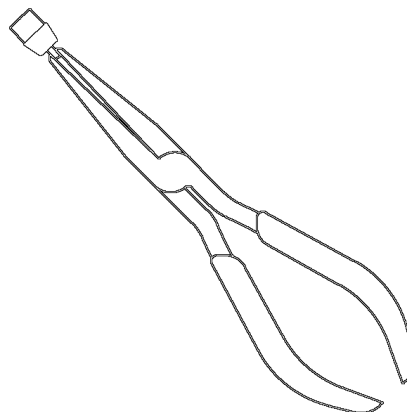

Figure HT-9 Holding the Rotor
1. Carefully grasp the rotor on either end and briefly immerse it in solvent. If it is difficult to grip the rotor securely, hemostats or needle-nosed pliers may be helpful (Figure HT-9). Grip the tab end, being careful not to mar the metal or touch the polymer.